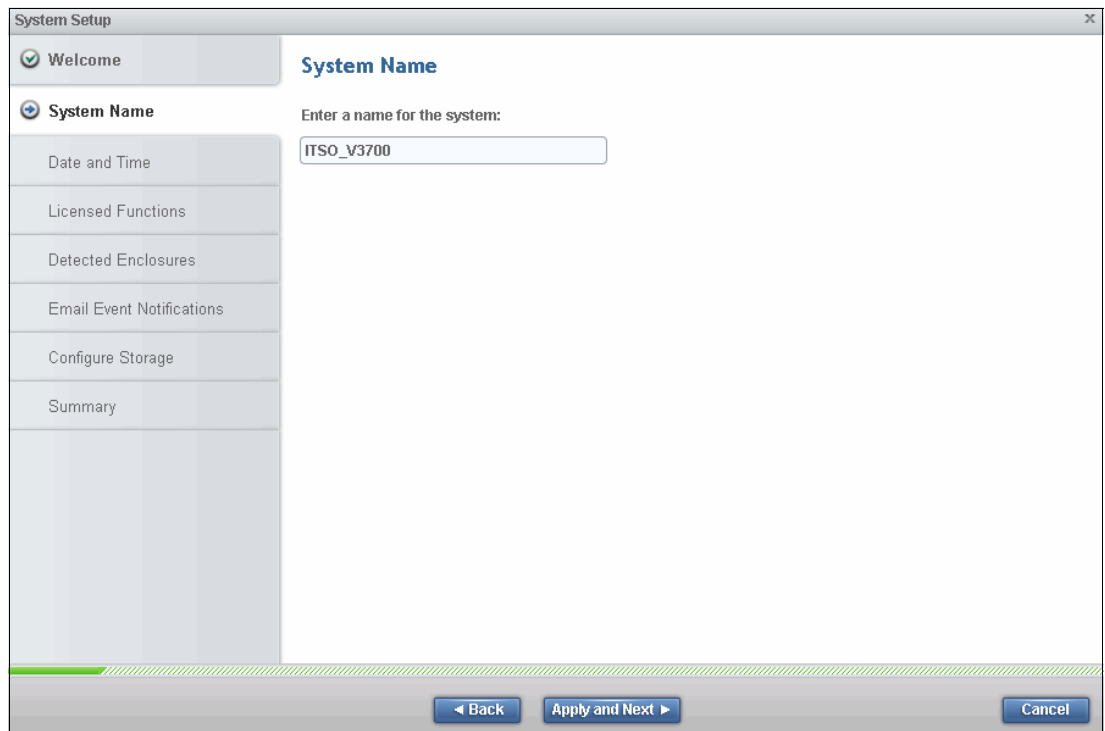

Figure 2-22 IBM Storwize V3700 System Name setup window
4. The next window that is opened is the System Name. Set up the system name and click **Apply and Next**, as shown in Figure 2-22.